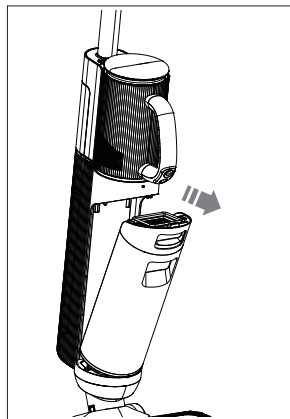

Fig. 9 – Removing the water tank
- ▶ Hold the recessed grip of the dirty water tank (7) and press the dirty water tank release button (6) downwards.
- ▶ Pull the fresh water tank out of the appliance body (**see Fig. 9**).